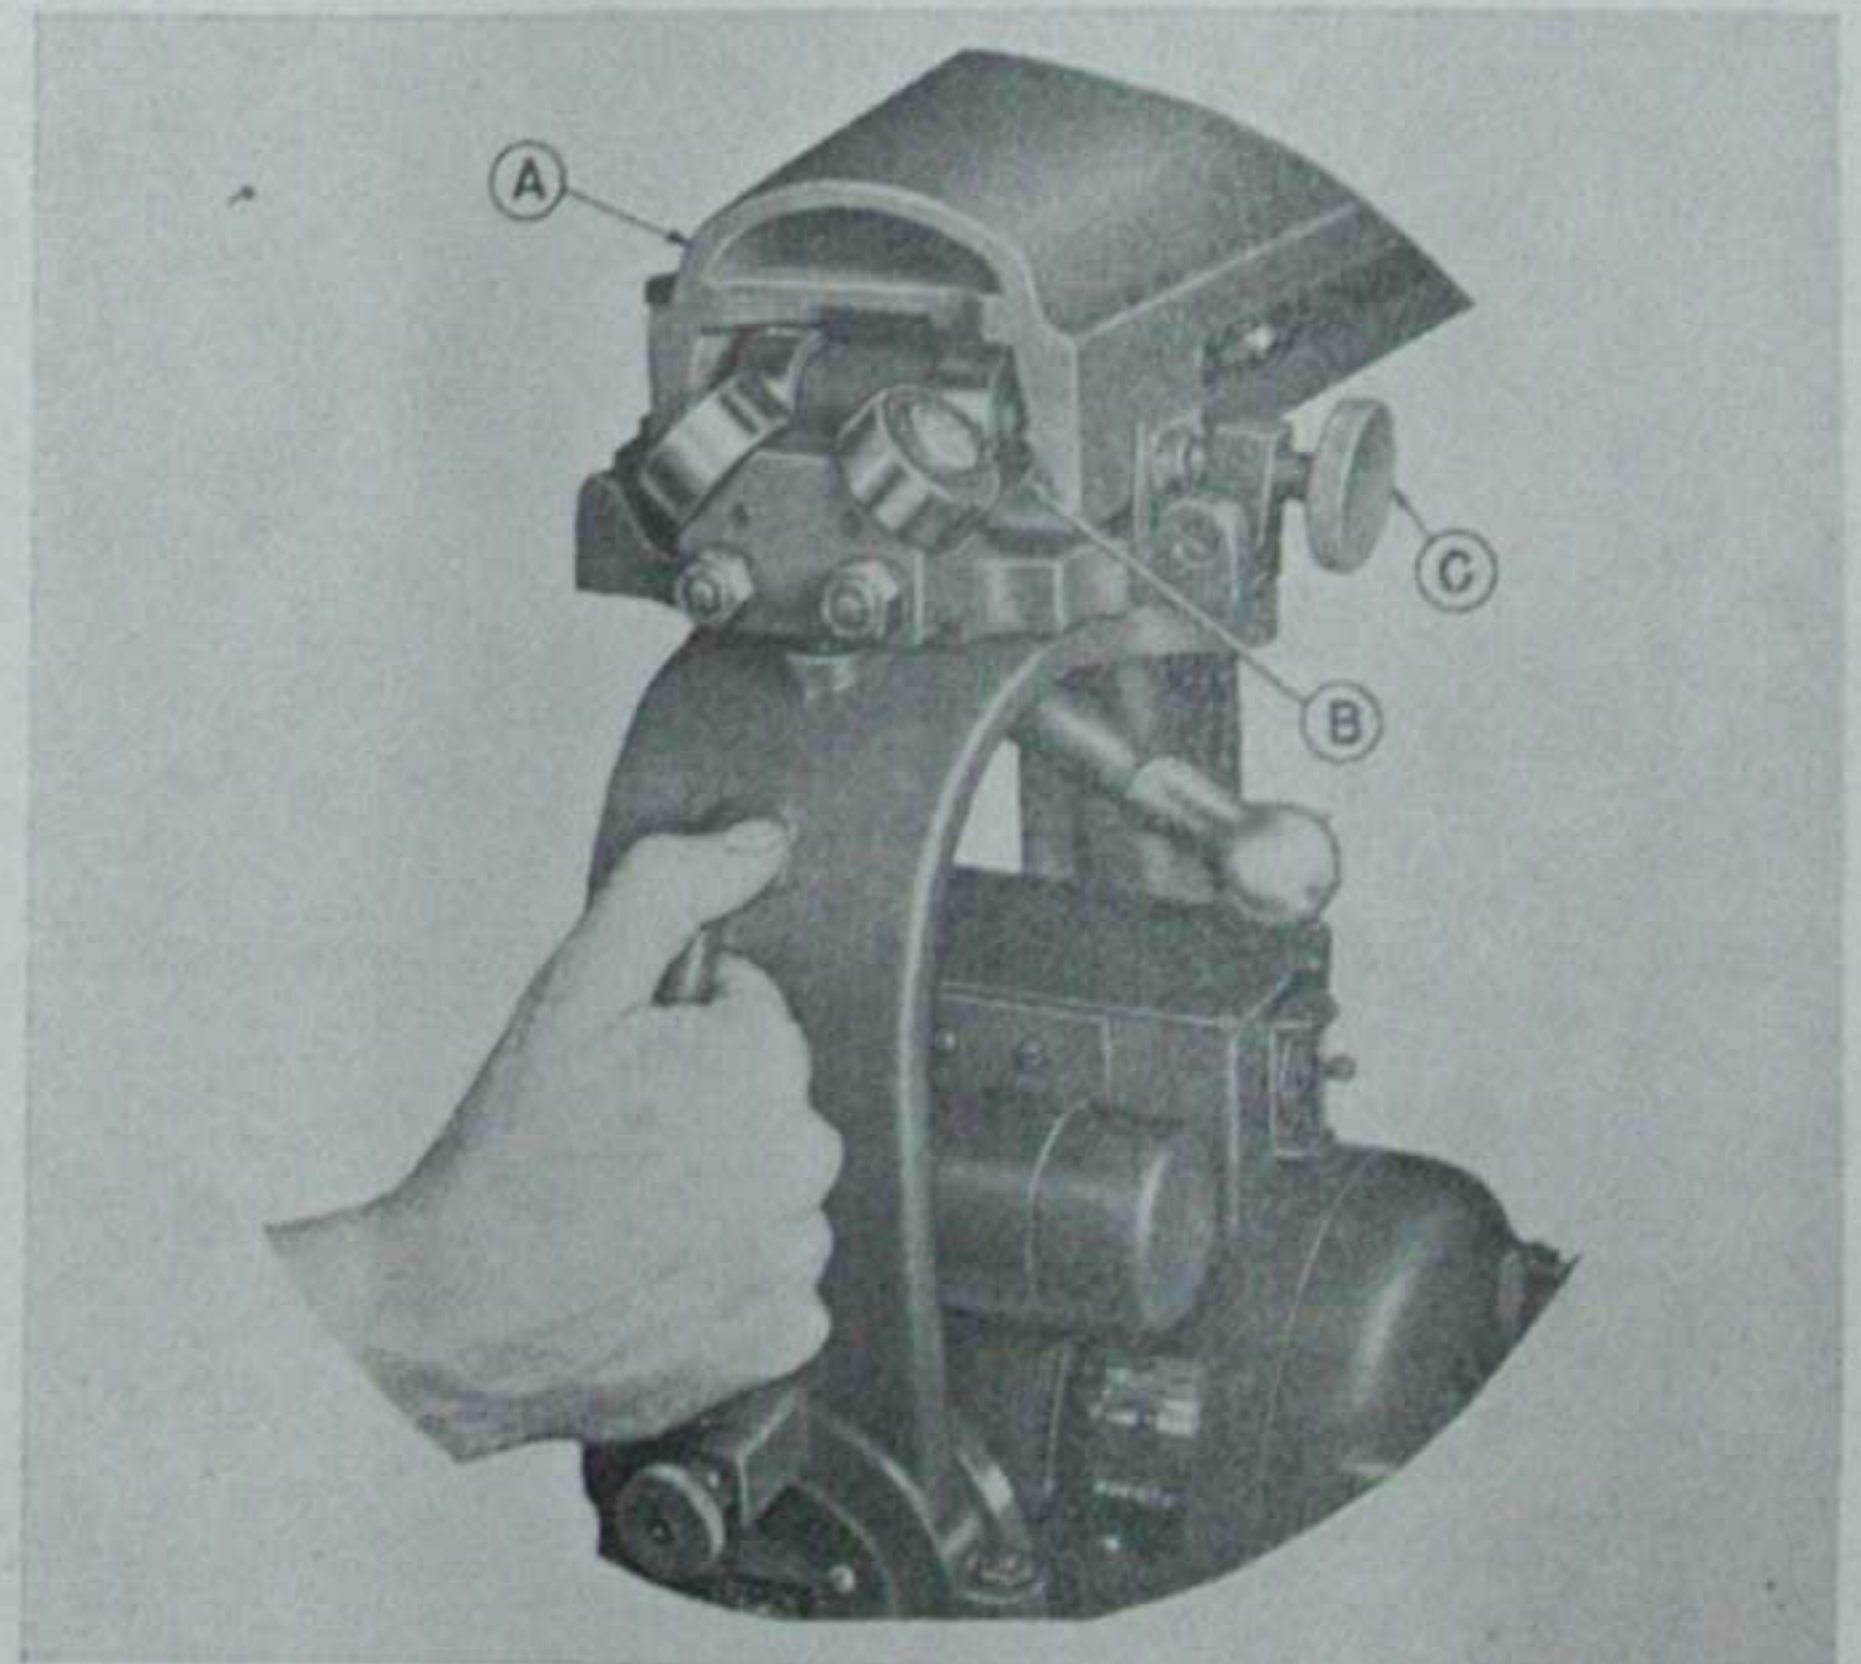

FIGURE 2
Remove the arm end plate and front stop bolt from the end of the arm (A, figure 2). The machined ways (B) inside the arm should be thoroughly cleaned and kept free of grease and oil. The ways should be kept in that condition during the entire life of the machine. Carbon tetrachloride is the best cleanser to use on the ways.
Hold the yoke handle of the saw carriage, figure 2, with your right hand and support the carriage with your left hand. Insert the roller head assembly into the arm. Tilt the rip lock (C) until it does not interfere with the insertion of the roller head assembly. Replace the arm end plate and the stop bolt.